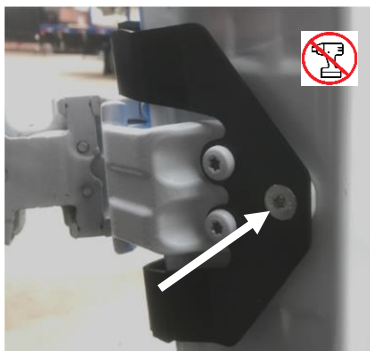

Figure 7: Bracket Installed Over Factory Hinge
18. Tightening the bracket down using the factory hardware and the M8 countersunk bolt to reinstall the hinge/bracket (Figure 7).